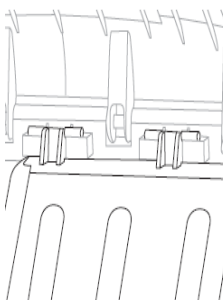
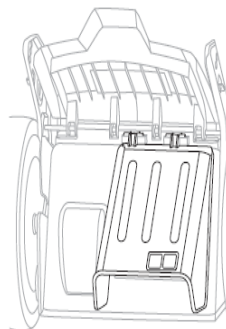

Fig.10B
Fig.10C
2. Fit the rear discharge chute into the relative holes, ensuring it is securely in place.(Fig.10B/ Fig.10C)